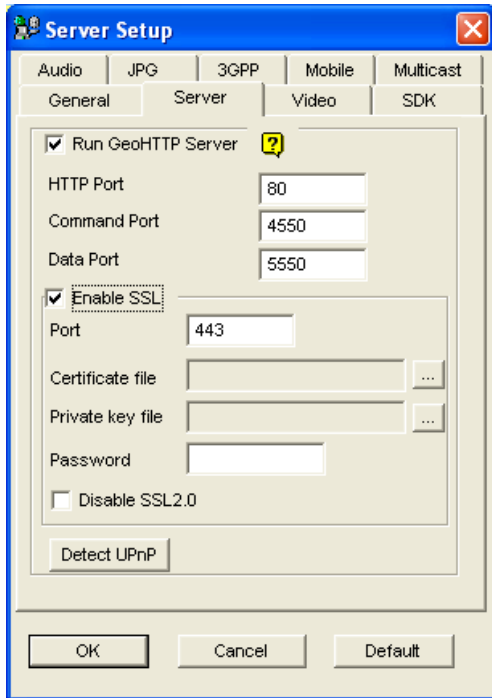

Figure 8-5
1. On the main screen, click the **Network** button (No. 11, Figure 1-2), select **WebCam Server**, and click the **Server** tab. The Server Setup dialog box (Figure 8-5) appears.
Tip: If you don't use the default ports, modify the related ports in the Server Setup dialog box (Figure 8-5) and then click **OK**. Re-open the dialog box and follow above steps to configure your router.